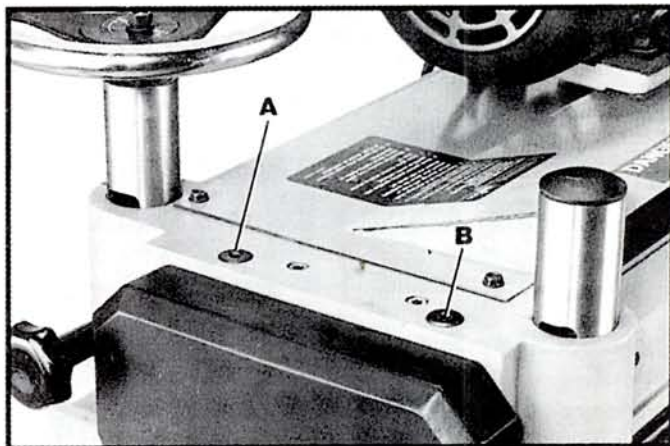

Fig. 42
To adjust the spring tension of the infeed roll, turn two screws, one of which is shown at (A) Fig. 42. The other screw is located on the opposite side of the machine. A good starting point to use in setting tension of the infeed roll is to adjust the two screws (A) until there are **FOUR** threads showing above the table casting. To increase or decrease the spring tension further, adjust screws (A).
To adjust the spring tension of the outfeed roll, turn two screws, one of which is shown at (B) Fig. 42. The other screw is located on the opposite side of the machine. A good starting point to use in setting the spring tension of the out-